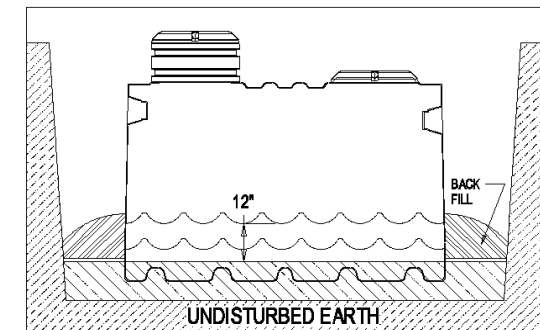

Figure 3.
- Place 12" of water into the tank before beginning backfill; then keep the water level even with backfill level as backfilling progresses [Figure 3].